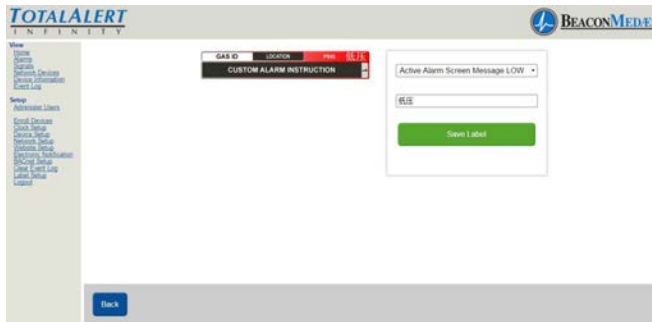

Figure 247
18. To save, select “Save Label” button. (See Figure 247)